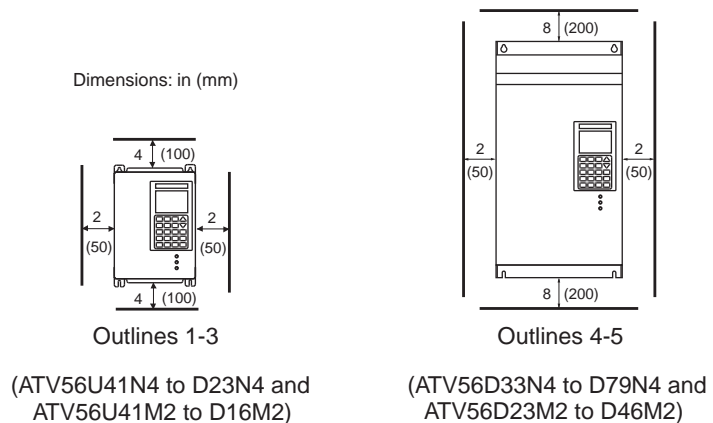

Figure 5: Clearances for Drive Controllers
- Electrical current through drive controller will result in heat losses that must be dissipated into the ambient air immediately surrounding the drive controller. To prevent thermal fault or equipment damage, provide sufficient enclosure cooling and/or ventilation to limit the ambient temperature around drive controller to a maximum of 40 °C. For power dissipation, refer to Tables 1 through 4 on pages 3- 4. Minimum clearances required around the drive controller for unobstructed air flow are shown in Figure 5. For proper thermal dissipation, the minimum enclosure size must not be based on clearances alone. Refer to section “MOUNTING IN GENERAL PURPOSE METAL ENCLOSURE” on page 10 for additional information.
- Observe minimum clearance distances as indicated in Figure 5 on page 9.
- Observe minimum clearance distances shown in Figure 5 on page 9.